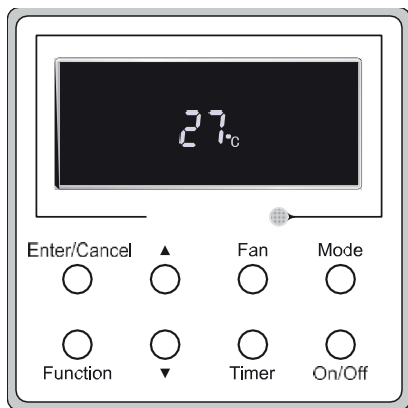
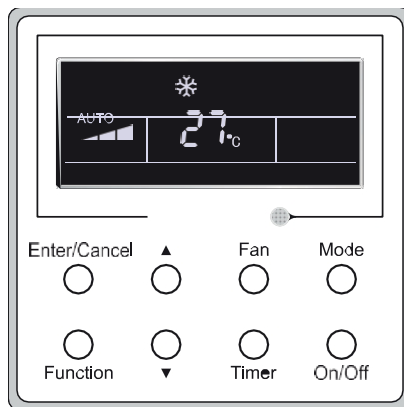

Fig. 4 “Off” State
Fig. 5 “On” State
**Note:** The state shown in Fig.4 indicates the “Off” state of the unit after power on. The state shown in Fig.5 indicates the “On” state of the unit after power on.